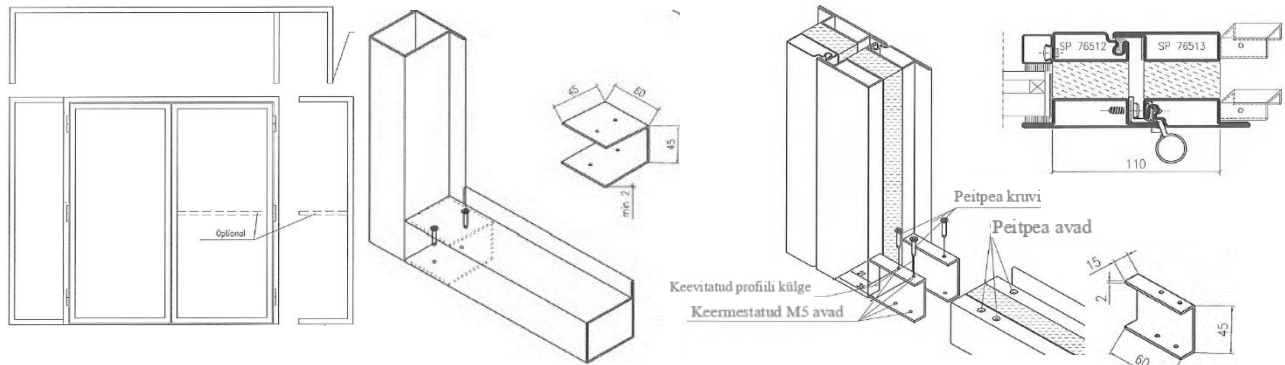

FIGURE 8 (dovetail joint)
- The door set (door frame, top and side panels) and non-load bearing partition wall can be disassembled for transport and reassembled with a dovetail joint (see Figure 8).